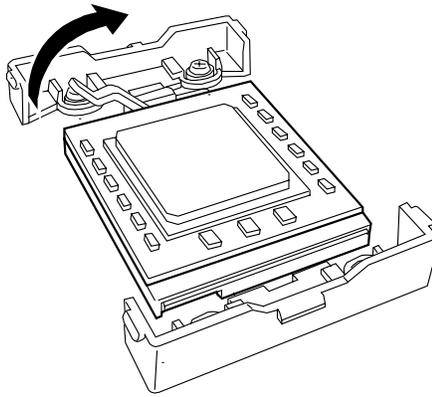

Figure 4-9. Closing the Locking Lever
12. Push the CPU lightly to the socket, and push down the lever to secure the CPU. See Figure 4-9.